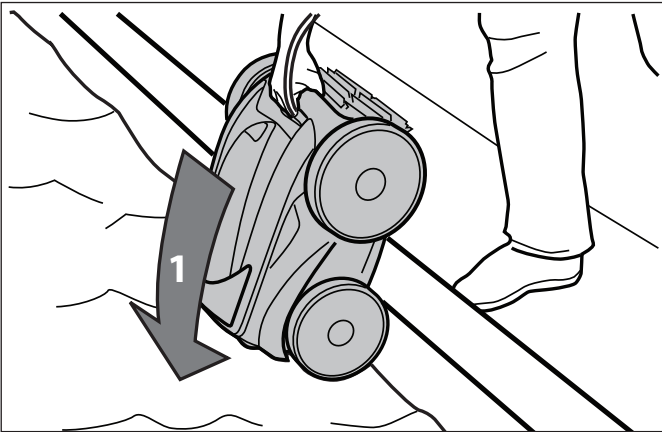

Figure 4. Submerge the Cleaner Vertically
1. Submerge the cleaner in the pool and remove any air trapped inside by keeping the unit vertical (Figure 4).